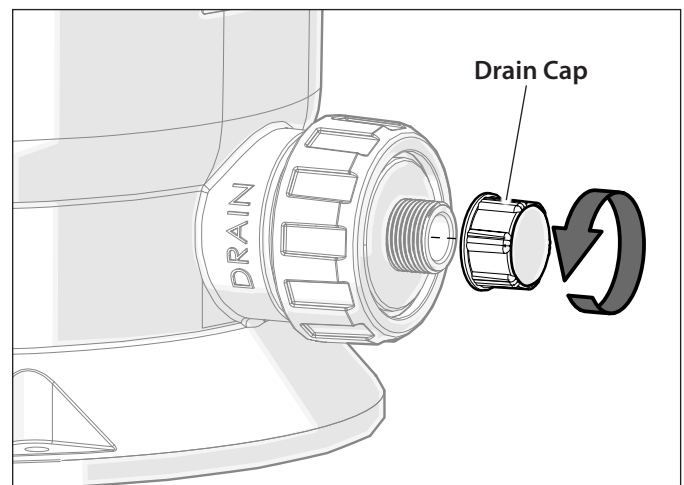

Figure 14. Drain Filter
3. Remove the drain cap located at the bottom of the filter main body to drain water (Figure 14).